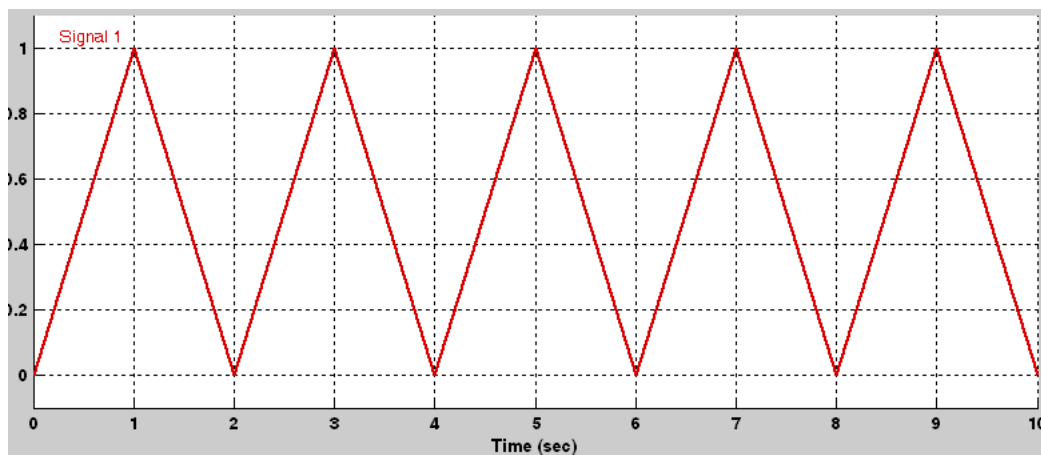

Figure 15.8. Triangular waveform for Example 15.4
For the triangular waveform of Figure 15.8 it is specified that the Time (T) and Amplitude (Y) points are (0,0), (1,1), (2,0), (3,1), (4,0), (5,1), (6,0), (7,1), (8,0), (9,1), and (10,0).